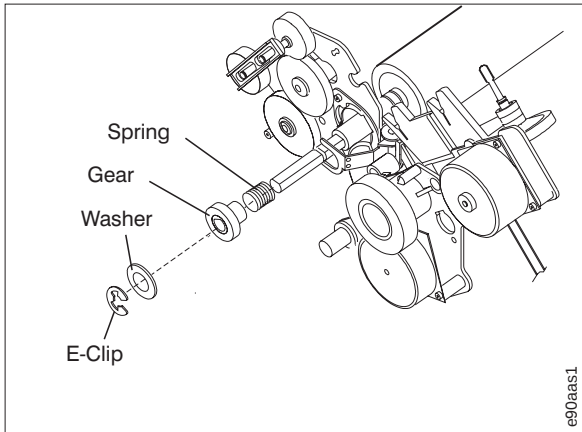

Figure 146. Platen Pinch Roller Retaining Clip. (Viewed From Left Side)
2. Remove the retaining clip (called 'e-clip' in Figure 146 on page 412), washer, gear, and spring. You will need to pivot the bellcrank out the way to remove the gear and spring.